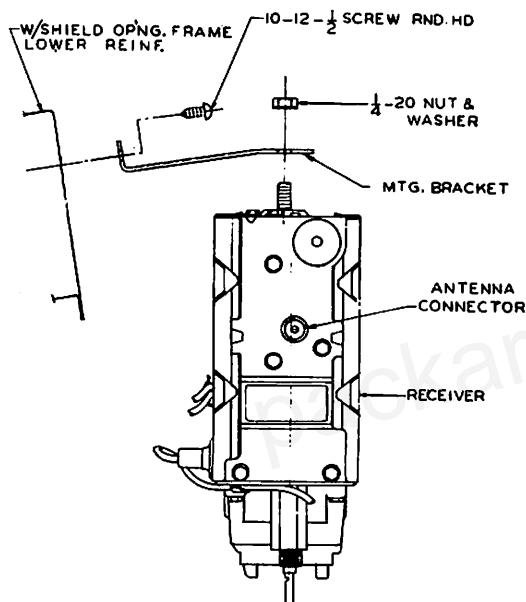

Figure 1
2. Mount the "L" shape bracket to stud on rear of control head using  $\frac{1}{4}$ -20 nut and lockwasher. Lift set up behind the instrument panel and guide the volume control and manual control shafts through the instrument board openings. Attach the "L" bracket to the underside of defroster duct with No. 10 x  $\frac{1}{2}$  sheet metal screw. See figure 1.